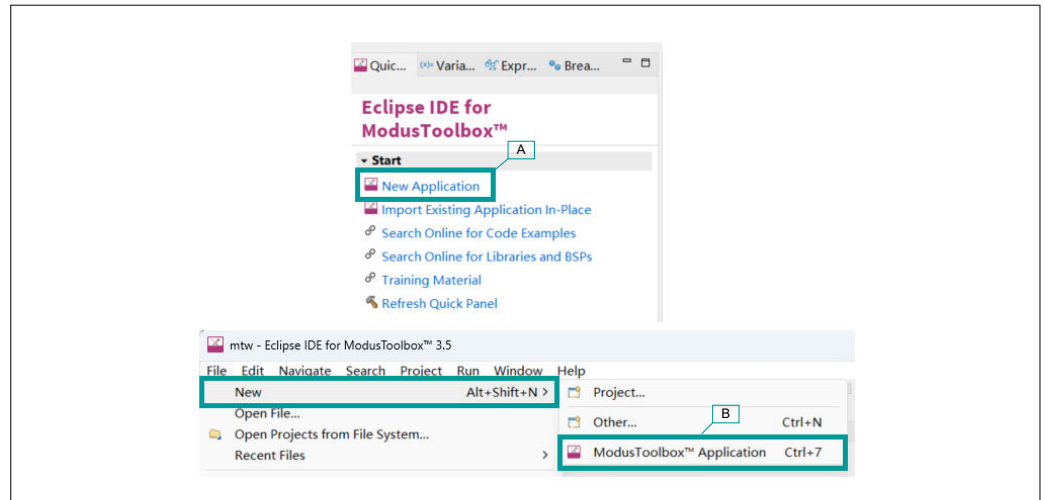

Figure 5 Create a New ModusToolbox™ Application
- b. Alternatively, you can choose **File > New > ModusToolbox™ Application**, as Figure 5 shows. This displays the Eclipse IDE for ModusToolbox™ Application window